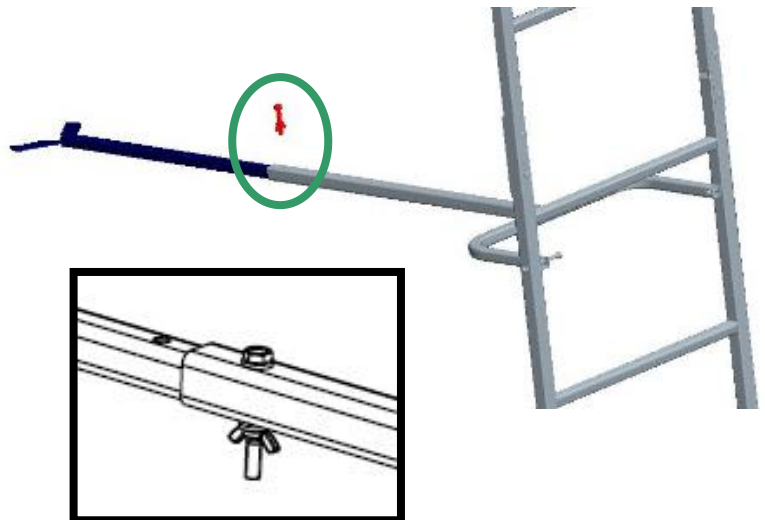

Figure 20
Locate Adjustable Tree Brace (#17). Slip the Adjustable Tree Brace (#17) into the Adjustable Tree Brace Mount (#18) and secure them using one (1) M6x45 Bolts, two (2) Nylon Washers and one (1) Wing Nut as shown in Figure 20. Securely tighten bolt.
Once the ladder stand platform has been leveled, adjust tree brace assemblies by lengthening or shortening so they fit snugly against the tree trunk and provide rigid support to the ladder sections. Adjust the braces length so they are snug against the tree trunk. Secure brace with (1) M6x45mm bolt, (2) washers and wing nut shown in Figure 20. Once the adjustable tree brace is snug and the standing and seating platform are level, install the Adjustable Tree Brace Strap (#25) onto the adjustable tree brace to secure it to the tree trunk. To accomplish this, attach hook through hole on tree V and wrap strap around back of tree and attach other hook through hole on other side of tree V and pull strap tight. Adjustable tree brace and strap must be tight and secured to tree trunk shown in Figure 24.